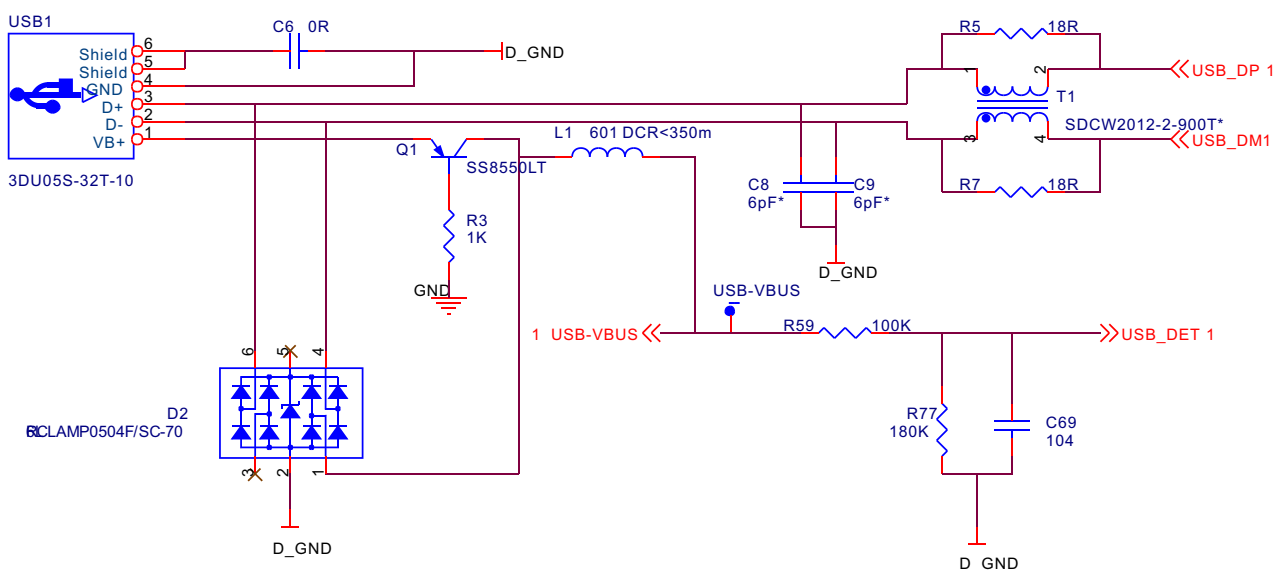

Figure 3.2.4.1 USBjack circuit schematic diagram
1. USB jack circuit is shown in the figure 3.2.4.1: